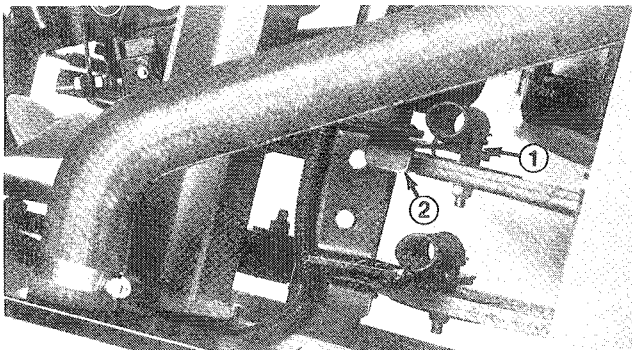

Figure 28
2. Measure distance from bottom of spacer on pulley mounting screw to bottom of slot in idler adjustment link (Fig. 28). Distance should be .25" or less.